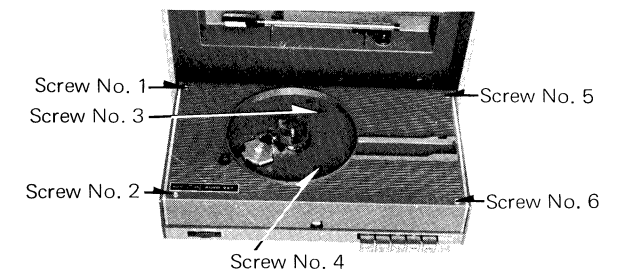

Fig. 11
To Remove Phonomotor (Refer to Figs. 11 & 12)
2. Remove six (6) motor board mounting screws, Nos. 1-6 as shown in Fig. 11.
To Remove Cassette Tape Deck (Refer to Figs. 11 & 12)
1. Remove six (6) motor board mounting screws, Nos. 1-6 as shown in Fig. 11.
To Remove Tweeter (Refer to Figs. 11 & 12)